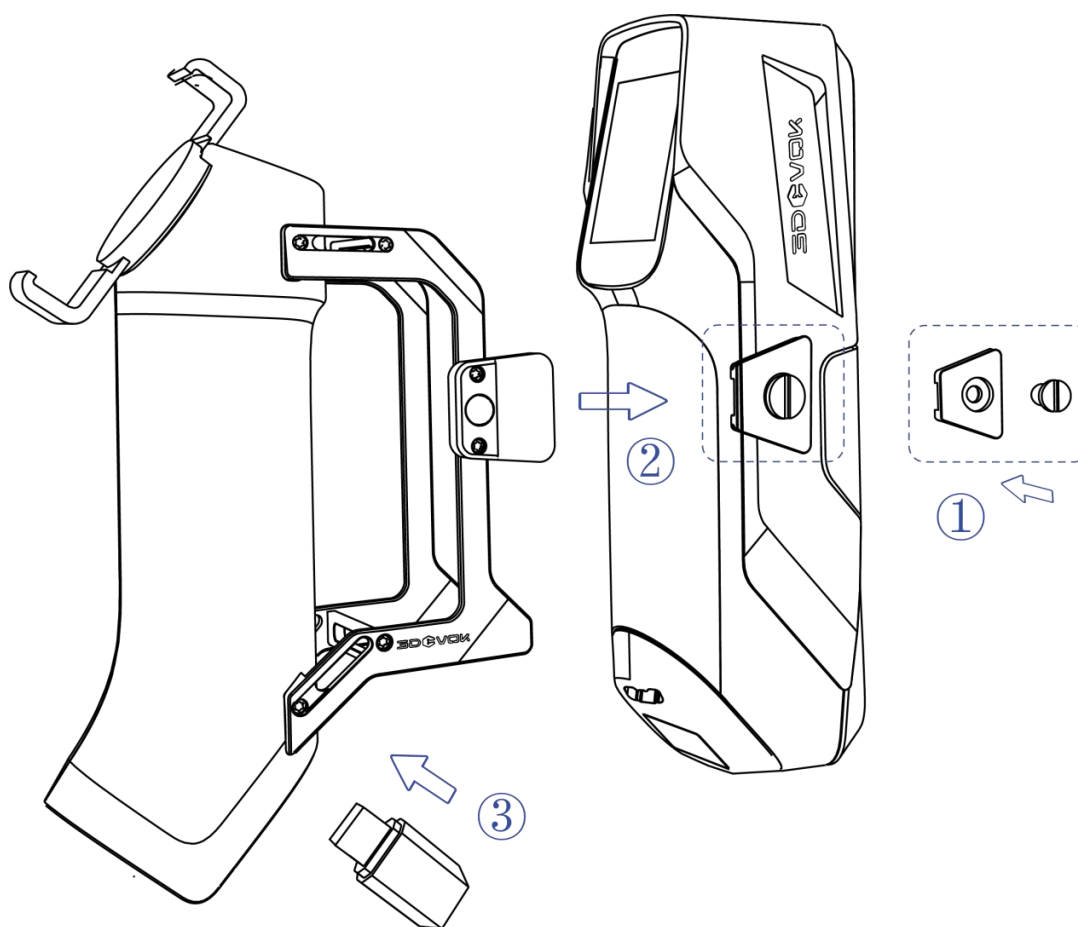

Figure 3-11 Assembly of Wireless Handle-Router Solution
2. Take out the trapezoidal fixing piece and the screw. Place the screw into the threaded hole of the fixing piece, as shown in Figure 3-11 (①). Use a flat head screwdriver to secure the fixing piece and screw to the card slot of the 3DeVOK scanner, as shown in Figure 3-11 (②). **Simultaneously, firmly snap the handle buckle into the fixing piece until a "click" sound is heard.**
3. Insert the network card into the slot at the bottom of the handle, as shown in Figure 3-11 (③).